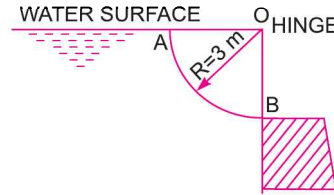

Fig. 3.58
19. Fig. 3.58 shows a gate having a quadrant shape of radius of 3 m. Find the resultant force due to water per metre length of the gate. Find also the angle at which the total force will act. [Ans.  $82.201 \text{ kN}$ ,  $\theta = 57^\circ 31'$ ]